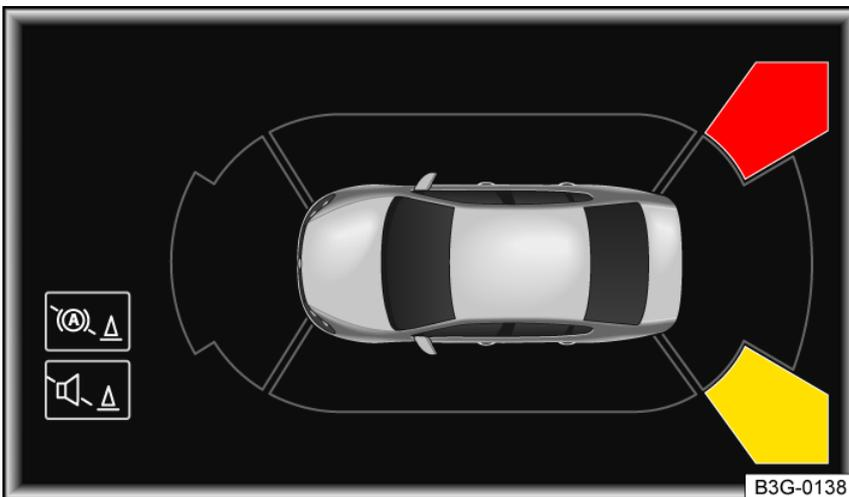

Fig. 143 On the Infotainment system screen: Rear Traffic Alert display.
- Note any warning chimes or messages in the instrument cluster display. Colored segments on the Infotainment system screen show the area concerned behind the vehicle fig. 143.